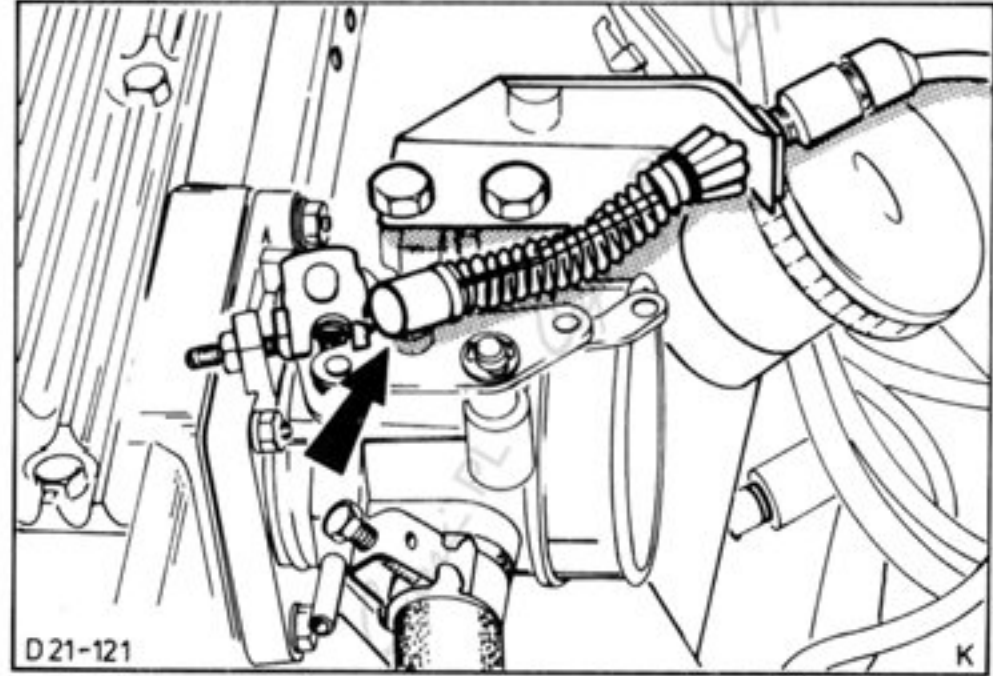

Fig.97. Install throttle cable.
30. Fit throttle cable and bracket and hook onto throttle lever, Fig.97.